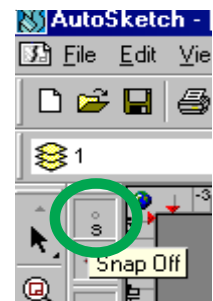

Figure 29
18. The words in the title block will need to be adjusted to fit in properly. To do this remove the snap command on the snap menu. Click on the **snap** tool to deselect it as shown in **figure 29**.